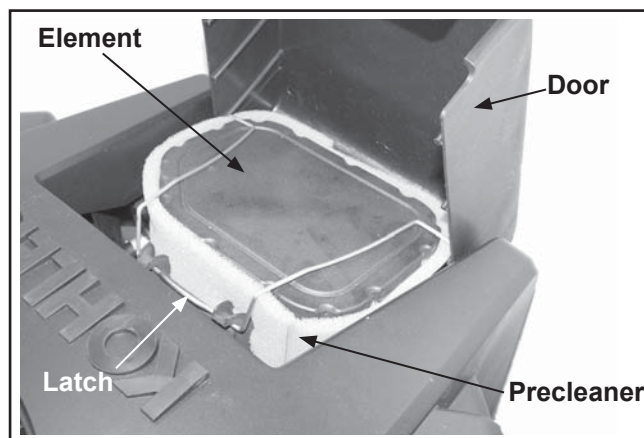

Figure 4-2. Precleaner on Air Cleaner.
2. Unhook the latch and remove the air cleaner element and precleaner (if equipped). See Figure 4-2.